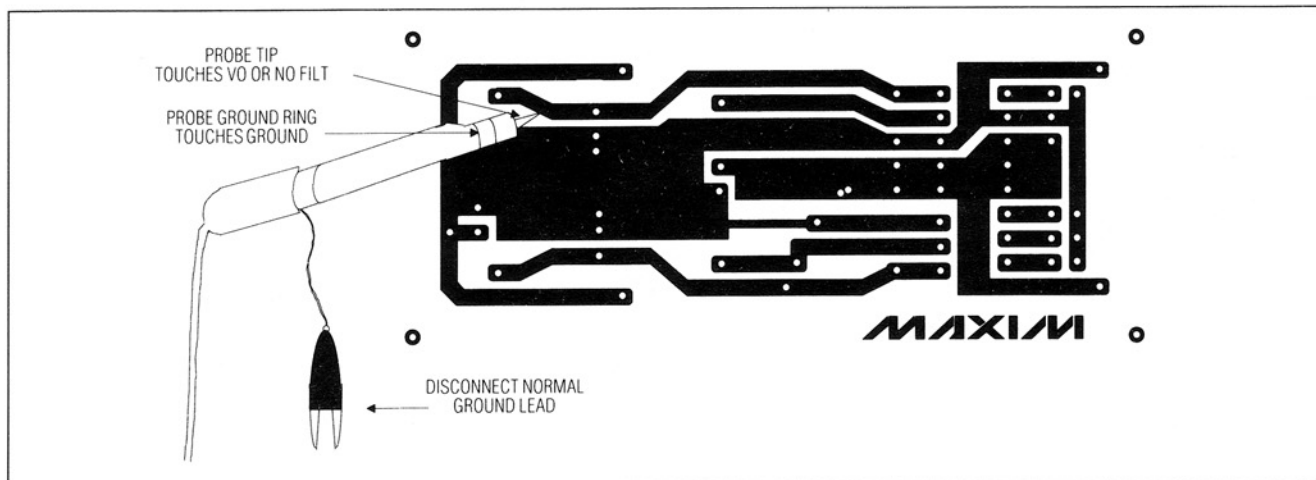

Figure 8. Noise Measurement
**5. Noise: Real or Not?** A very short scope probe ground lead **must** be used to eliminate induced switching noise unless the board is placed in a shielded enclosure. Many probes have a ground ring near the tip (underneath the probe tip cover) normally used to insert the tip into a BNC jack. Place the probe so this probe ground ring touches the filter capacitor ground lead while the probe tip touches VO (Figure 8). Also, ground noise can often be reduced by connecting the case (earth) ground of the +5V source to circuit ground.